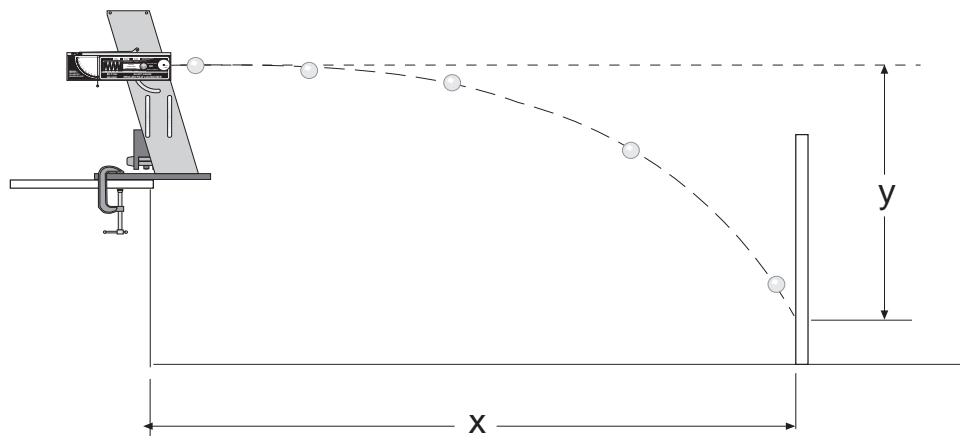

Figure 4.1 Setup
- ① Clamp the Projectile Launcher to a sturdy table near one end of the table with the launcher aimed away from the table.
- ② Adjust the angle of the Projectile Launcher to zero degrees so the ball will be launched horizontally.
- ③ Fire a test shot on medium range to determine the initial position of the vertical target. Place the target so the ball hits it near the bottom. See Figure 4.1.
- ④ Cover the target board with white paper. Tape carbon paper over the white paper.